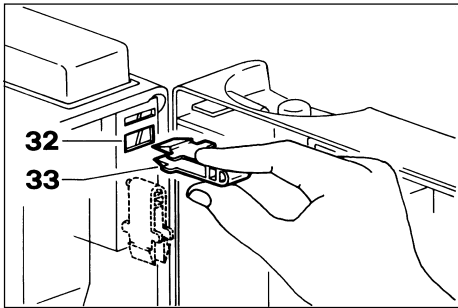

Fig. 14
- Open the door and insert key (33) into slot (32) enabling safety sensors (Fig. 14).